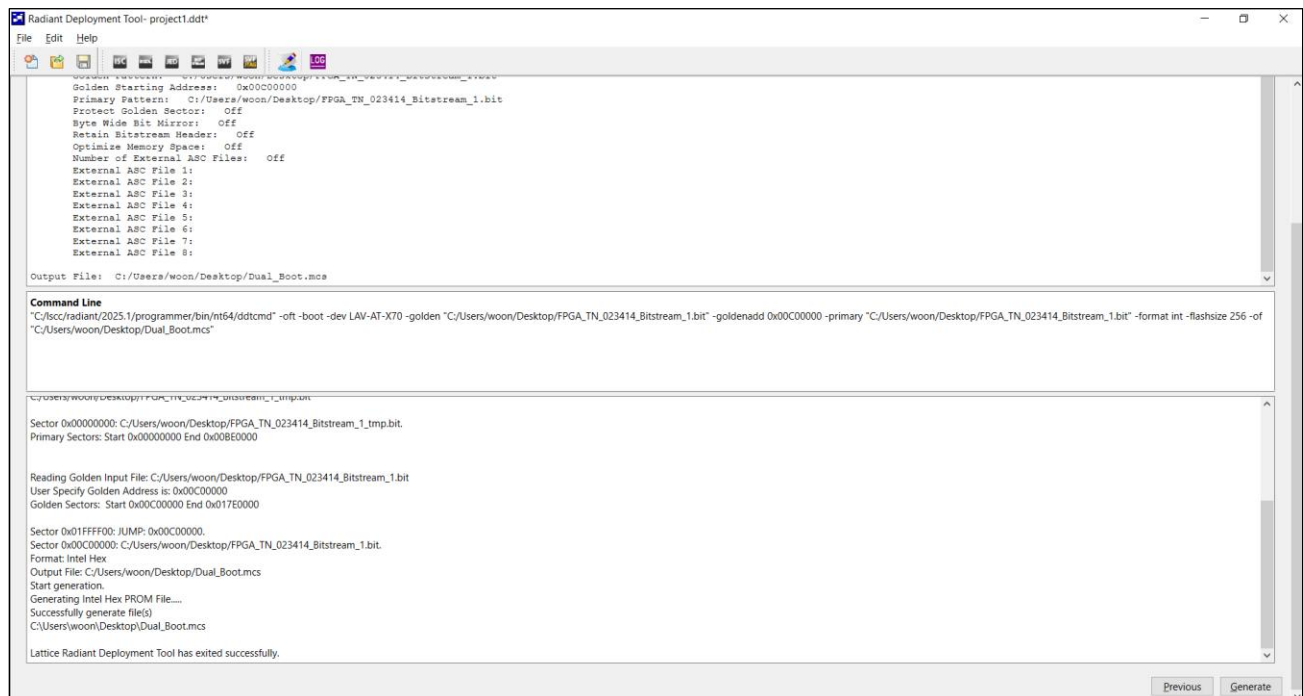

Figure 7.5. Generate Deployment Window
Step 4 of 4: Generate Deployment window (Figure 7.5)